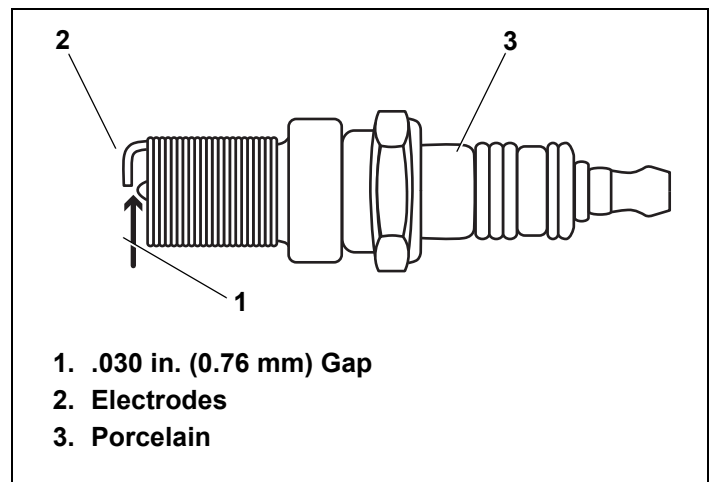

Figure 33. Resistor Spark Plug
4. Check electrode gap with wire feeler gauge and set gap to—.030 (0.76 mm) if necessary. See Figure 33.